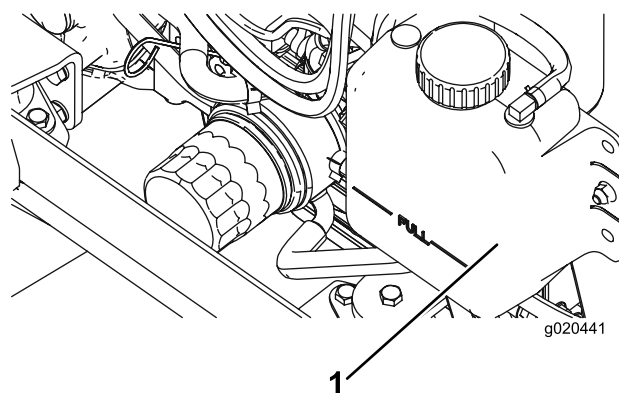

Figure 118
2. Carefully remove the radiator cap and expansion-tank cap (Figure 118).